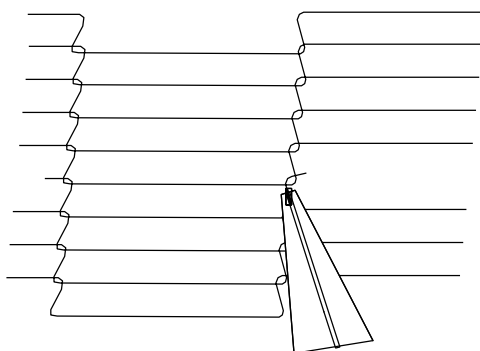

Figure 4-26.
2. Adjust conveyor belt tension screws (located on left end of oven) for the 3" to 4" (75mm to 102mm) deflection as shown in Figure 4-26. If there is proper tension, proceed to "J. Attaching Drive Chain". If belt is still too loose, continue to step 3 below.
2. Using long nose pliers, unhook master links at left end of conveyor as shown in Figure 4-26.